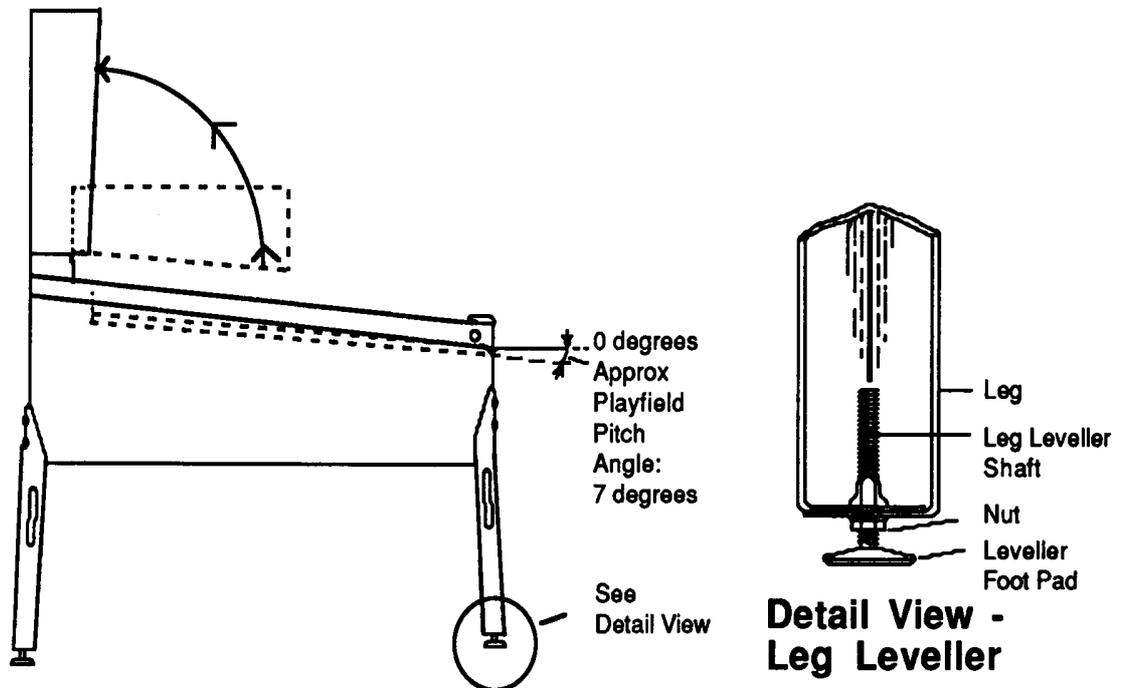

Figure 3. Pinball Assembly, Playfield Pitch Angle, and Leg Leveler Details.
3. Attach the front legs (after installing leg levellers), using leg bolts. See Figure 3 for details.
6. Adjust the leg levers for proper playfield level (side-to-side) and playfield pitch angle (incline) of approximately 7 degrees. (Again, it is recommended that these measurements be made ON the playfield, not the cabinet nor the playfield cover glass.) Tighten the nut on each leg leveller shaft to maintain this setting, as shown in Figure 3.